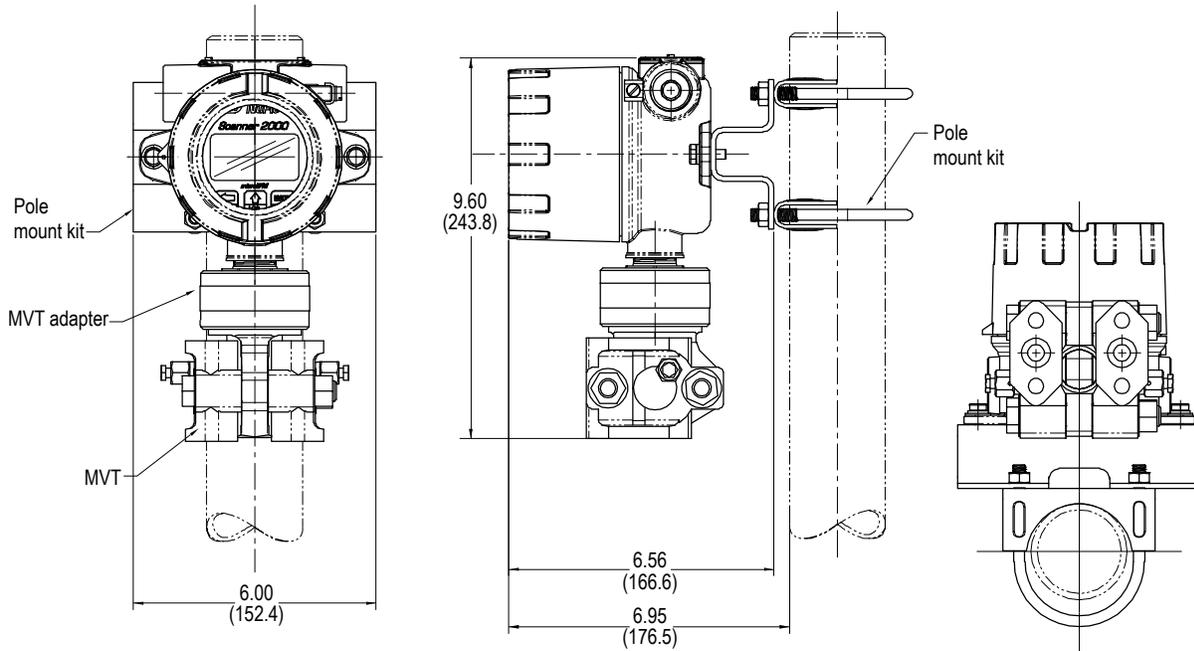

Figure 2.4 - Scanner 2000 with MVT, remote-mounted on a 2-in. pole using a NuFlo hardware kit (Part No. 9A-30028004)
- Pole-mount. The instrument can be mounted on a 2-in. pole using a NuFlo hardware kit, or bulkhead-mounted to a flat, vertical surface (Figure 2.4, page 32). Pole mounting may be preferred where limited space or pipe vibration prohibits direct-mount installation. A horizontal pipe mount is recommended for liquid and steam installations using a side-port MVT and block manifold. Tubing is used to connect the integral MVT to the orifice meter or cone meter. If a Scanner 2000 will be used for steam measurement, a condensate pot must also be installed to protect the Scanner 2000 from extreme temperatures. See Measuring Steam via a Differential Pressure Meter, page 40, for details.
2. Connect the mounting bracket to the Scanner 2000 using the two bolts provided (Figure 2.4, page 32).
Important The vertical pipe mount configuration shown in Figure 2.4 is not recommended for side-port MVTs when mated with a block manifold for liquid or steam measurement. A horizontal pipe mount should be considered for these installations.